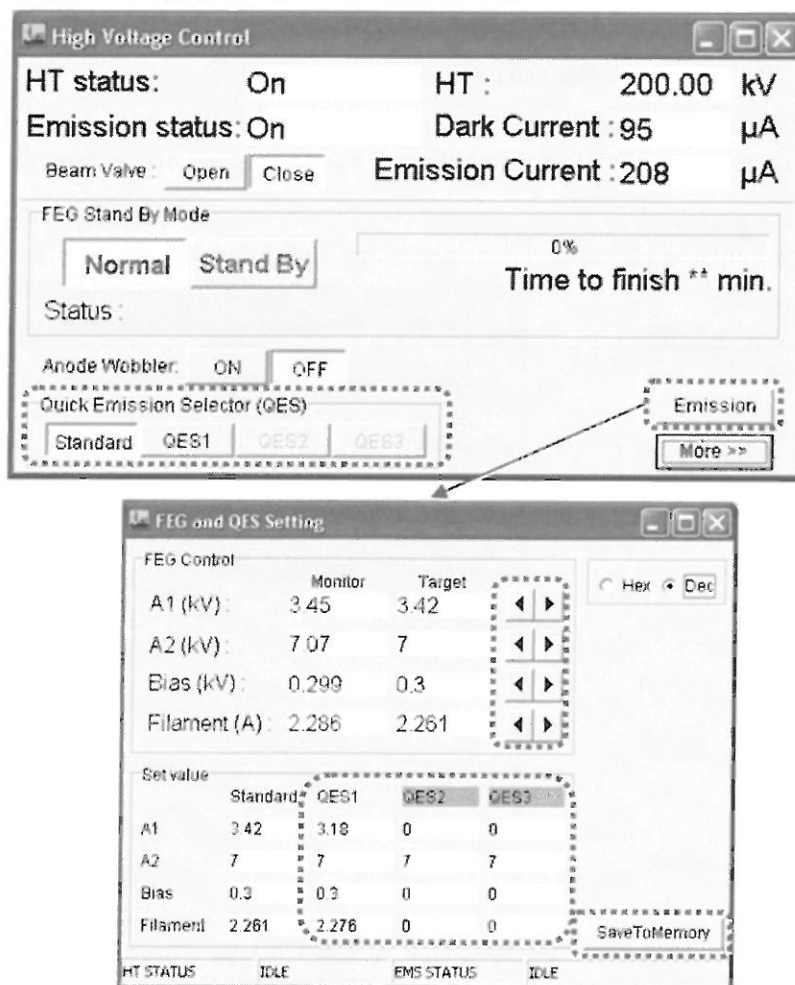

Fig. 5.80 QES window
- ◆ Open the "High Voltage Control" window (Fig. 5.80).